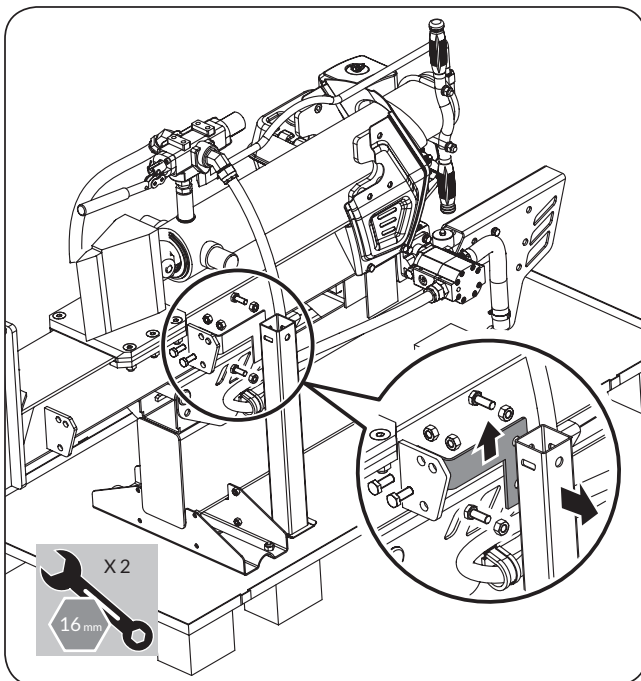

Figure 2c
5. Disassemble the support leg from the unit. (Remove the bolts and nuts, see **Figure 2c.**)